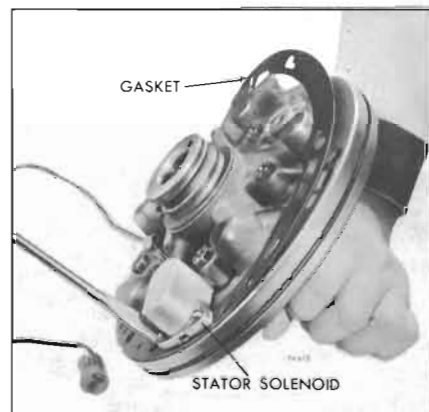

Figure 74-615
1. Remove stator solenoid attaching screws and solenoid and pump to case gasket. See Figure 74-615.